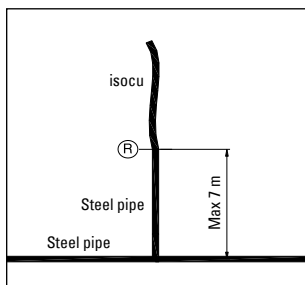

fig. 3
- The maximum distance to a fix point on the pipe line must comply with fig. 3.